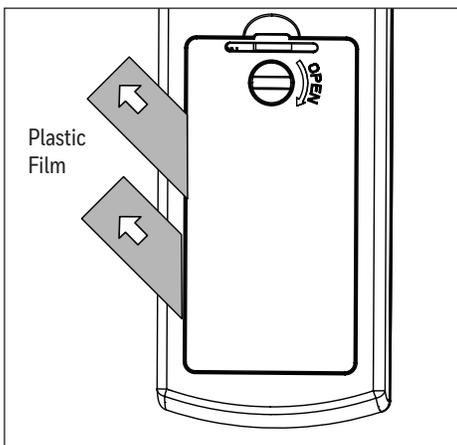

Figure 6.1
1. Batteries were preinstalled in the battery compartment of the remote in remote pack. Pull the plastic film in the direction of the arrow to remove which will activate the batteries (Figure 6.1).
Remote does not work.	<ol style="list-style-type: none"> <li>1. Power surge may have cleared the memory and remote needs to be resynced to the receiver. Syncing instructions: Turn off the power at the breaker box for at least 10 seconds and then turn the power back on. Within 30 seconds, press and hold the "LEARN" button (Figure 6.1) on the back of the remote for 5 seconds. The fan will turn on at high speed and light will blink twice and stay on, signaling a successful synchronization.</li> <li>2. Insert new CR2032 batteries in battery compartment of the wall control.</li> <li>3. If there are several remote fans in proximity, turn the power off to those fans and re-sync the fan.</li> </ol>